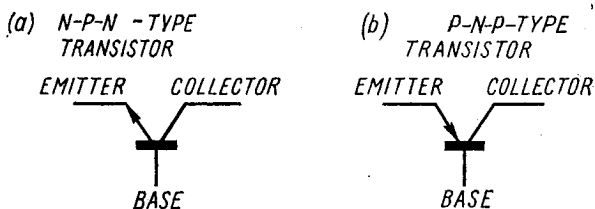

Fig. 15. Transistor circuit symbols $n-p-n$ -type and $p-n-p$ -type
1. You've met $p-n-p$ and $n-p-n$ transistors and found out something about their operation. But in order to recognize a transistor when you see one in a circuit you must become familiar with some of the forms, connections, and circuit symbols used to schematize them. Fig. 15 illustrates